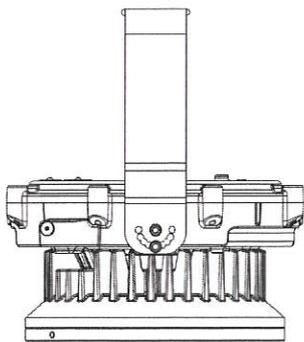
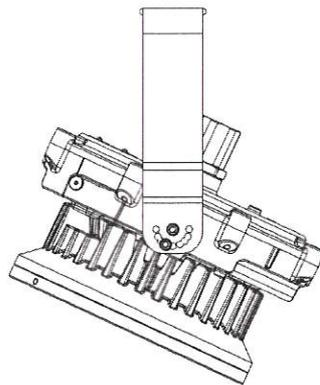
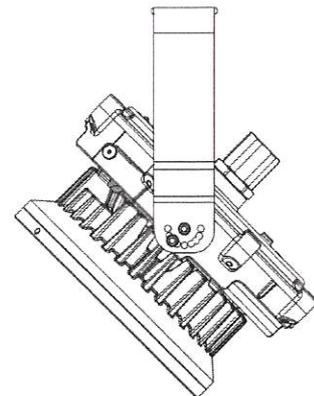

Figure 4
Figure 5
Figure 6
- ☞ Mounting Orientation – Lens horizontal Facing Down (Figures 4 and 7) or Lens Facing Down 25°(Figures 5 and 8) or Lens Facing Down 45°(Figures 6 and 9) from vertical.